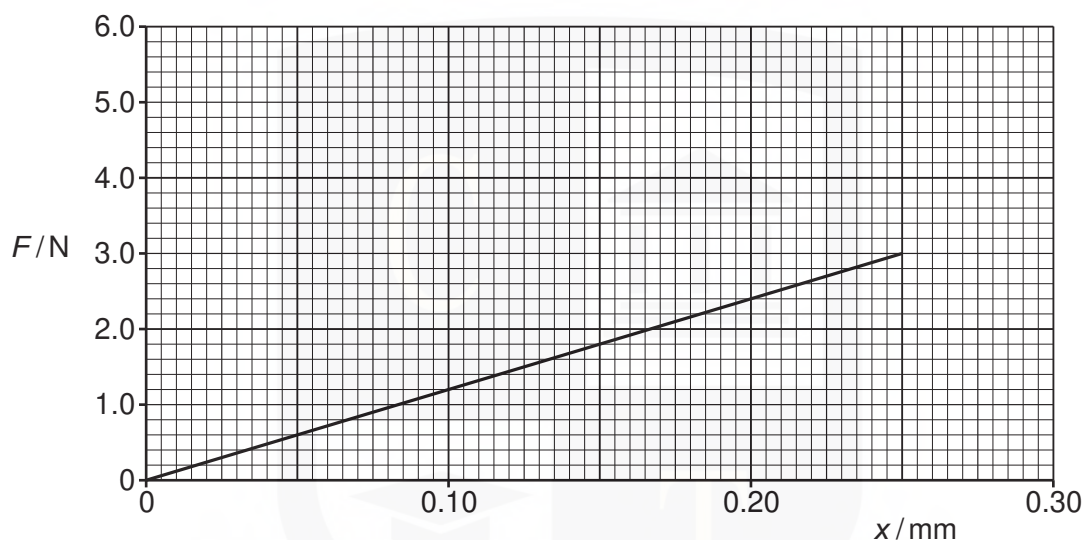

Fig. 5.1
(b) A load F is suspended from a fixed point by a steel wire. The variation with extension x of F for the wire is shown in Fig. 5.1.
(i) State two quantities, other than the gradient of the graph in Fig. 5.1, that are required in order to determine the Young modulus of steel.
- (iii) A load of 3.0 N is applied to the wire. Use Fig. 5.1 to calculate the energy stored in the wire.
On Fig. 5.1, sketch the variation with x of F for the copper wire for extensions up to 0.25 mm. The copper wire is not extended beyond its limit of proportionality. [2]